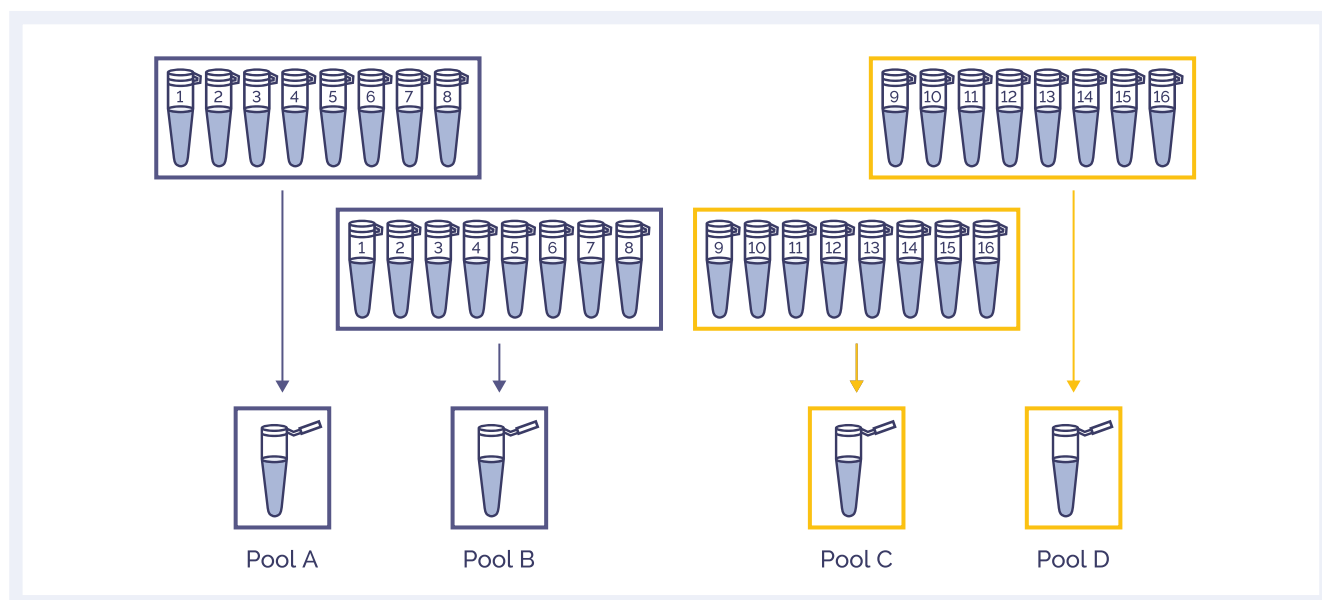

Figure 7: Pooling guide to pool 16 samples in four pools, each consisting of one strip of eight libraries.
2. Aliquot 300 ng–500 ng of each of the eight libraries in a strip into a single 1.5 ml LoBind tube (see Figure 7).